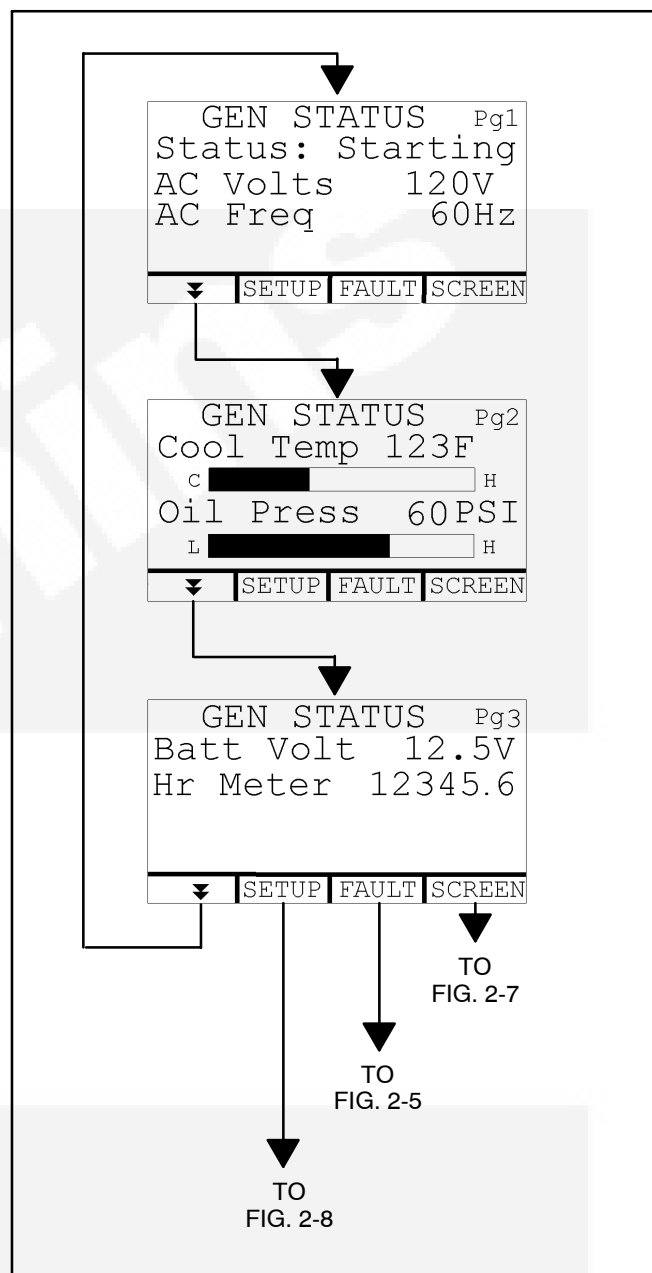

FIGURE 2-3. TYPICAL GENERATOR SET STATUS SCREENS
Starting the Generator Set: *Push and Hold START* until the generator set starts. The GENSET status lamp blinks while the engine is cranking. It comes on when the generator set starts and stays on while it runs. The status displayed on the LCD changes from *Starting* to *Running* (Figure 2-3). See STARTING THE GENSET (p. 3-3).
Stopping the Generator Set: *Push and Release STOP*. The GENSET status lamp will go out. The status displayed on the LCD will change from *Running* to *Stopped* (Figure 2-3). See STOPPING THE GENSET (p. 3-3).
Priming the Fuel System: *Push and Hold STOP*. The GENSET status lamp will blink. The status displayed on the LCD will change to *Priming* in 2 seconds (Figure 2-3). See PRIMING THE FUEL SYSTEM (p. 3-3).
Generator set status is displayed on 3 screen pages (Figure 2-3). GEN STATUS PG1 appears when the Display is turned on. Press the double arrows [▼] to toggle between the 3 screen pages.
2. **Push and Hold START** on the e-Series Digital Display or control switch until the generator set starts. The generator set status lamp blinks when the engine is cranking and comes on and stays on when the generator set starts and runs. The status displayed on the e-Series Digital Display changes from *Starting* to *Running* (Figure 2-3).